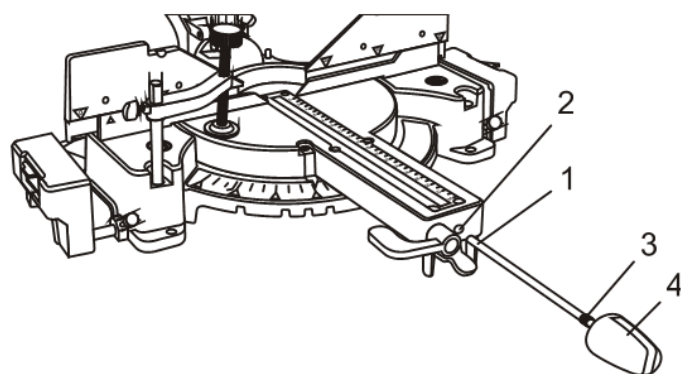

Fig. 3
1. Insert the unthreaded end of the locking rod (1) into the threaded hole in the mitre handle (2) (Fig. 3).
2. Slide the locking rod into the mitre handle until the threaded portion of the rod (3) can be threaded into the mitre handle.
3. Turn the locking knob (4) clockwise until the end of the unthreaded portion of the rod makes firm contact with the base casting and locks the cutting head at the correct mitre angle.